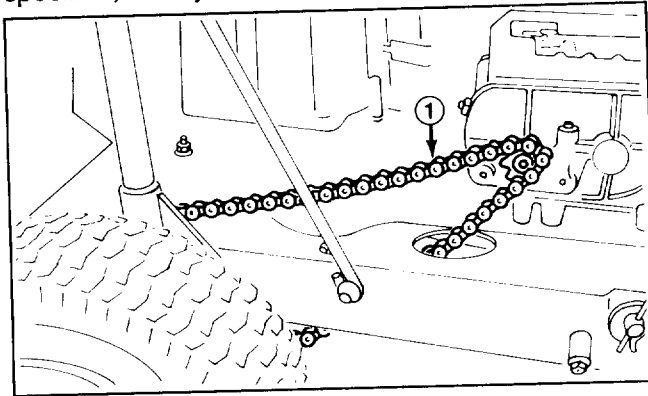
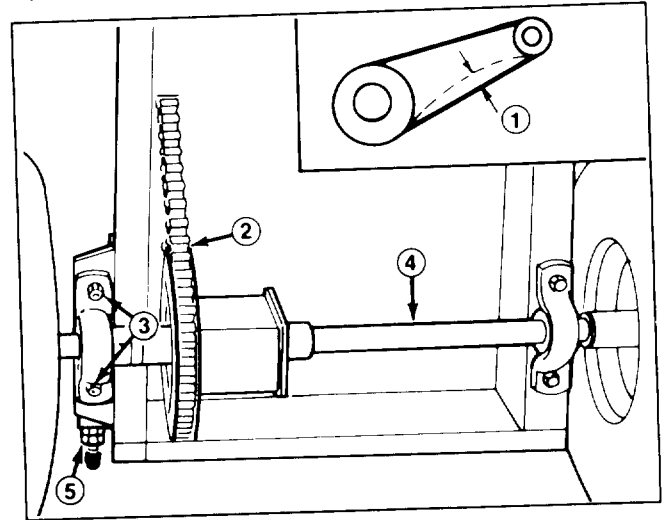

Figure 22
Figure 23
2. Check deflection of drive chain by lifting up and pressing down on chain with moderate pressure at mid span (Fig. 22). There should be 1/8 of an inch (3 mm) total deflection (Fig. 23). If deflection is not as specified, an adjustment is required — steps 2-13.
7. Loosen four flange nuts securing pillow blocks w/differential axle to the rider frame (Fig. 23).
8. Loosen rear jamnut on chain tensioner (Fig. 23).
11. Since differential axle must be parallel to rear of chassis, measure distance from center of pillow blocks to rear of chassis (Fig. 23). Difference between the two measurements must not exceed 1/8 inch. If difference exceeds 1/8 inch, differential axle is not parallel with chassis; therefore it must be readjusted.